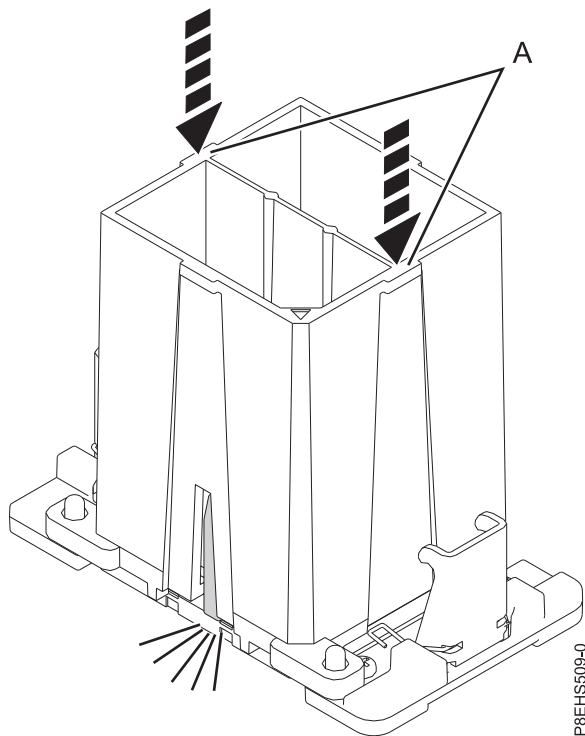

Figure 73. Locking the system processor module into the tool
- c. With the removal tool (A) sitting on top of the system processor module, push down on the tool to lock the system processor module into the tool, as shown in Figure 73 on page 74. Make sure that both of the tool jaws are locked on the system processor module. Do not press the blue release tabs until directed to do so later.